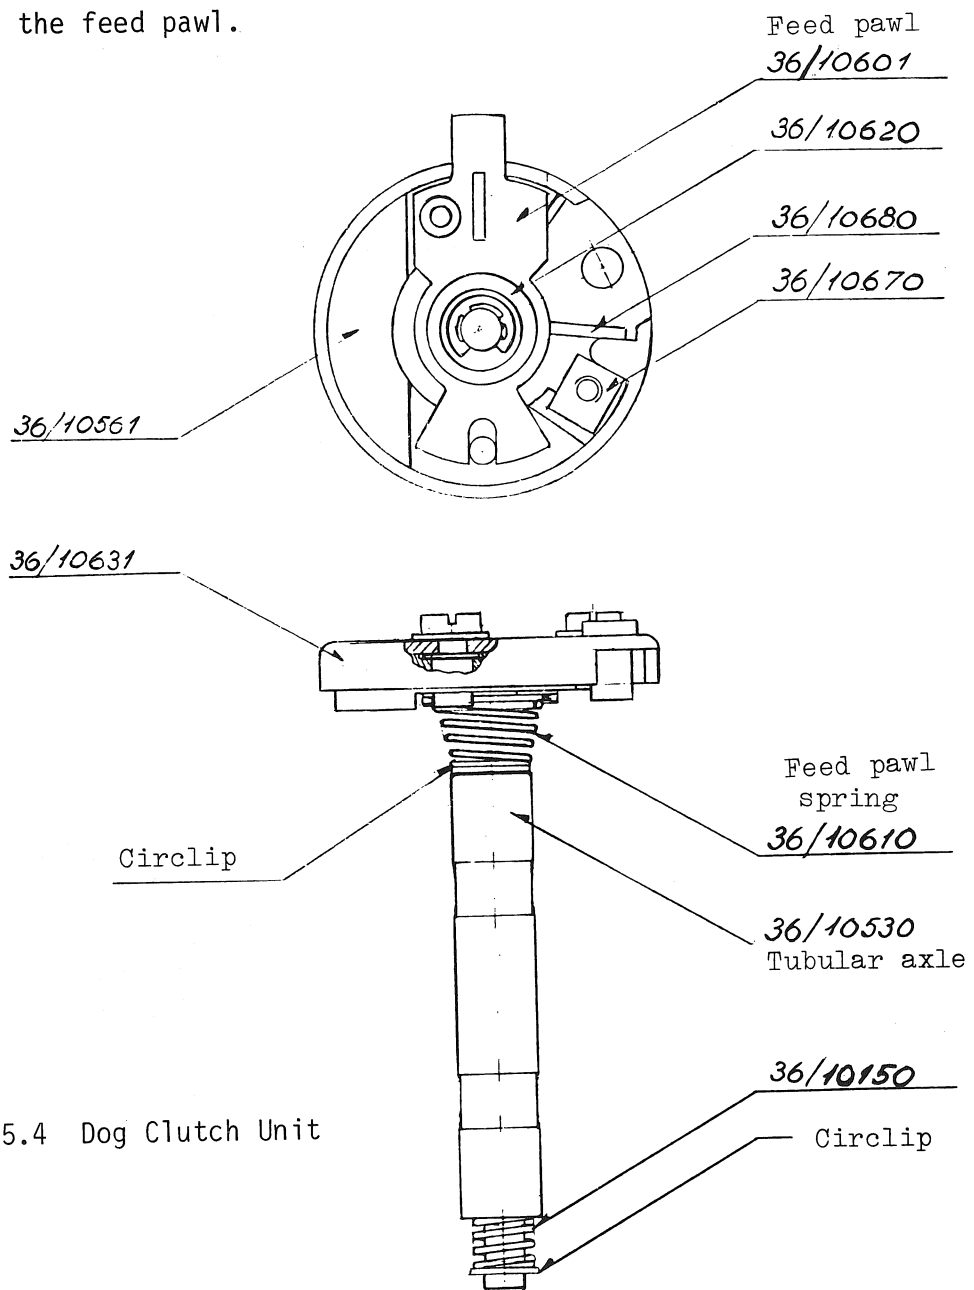

Fig. 5.4 Dog Clutch Unit
5.1.17 REMOVING THE FEED PAWL AND FEED PAWL SPRING (Fig. 5.4)
} part of 10590, Se Fig. 5.4